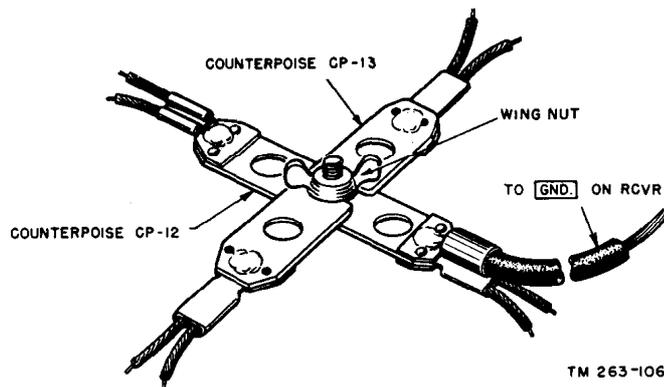

Figure 24. Counterpoises CP-12 and CP-13.
b. Set up the counterpoise by placing link Counterpoise CP-13 on top of Counterpoise CP-12; clamp them together with the wingnut attached (fig. 24).